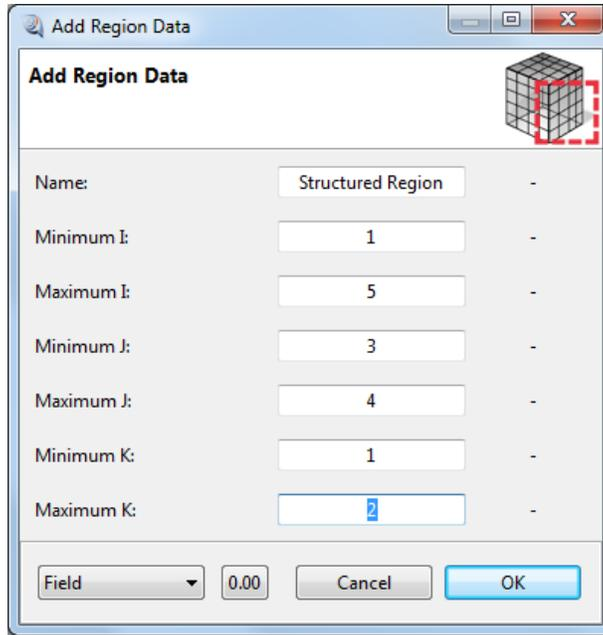

Figure 63-Define Region Using Structured Box Option
**Structured Box (IJK):** in this case, the region is defined using grid indices. The box boundary indices of I, J, K are inserted in this window (Figure 63).